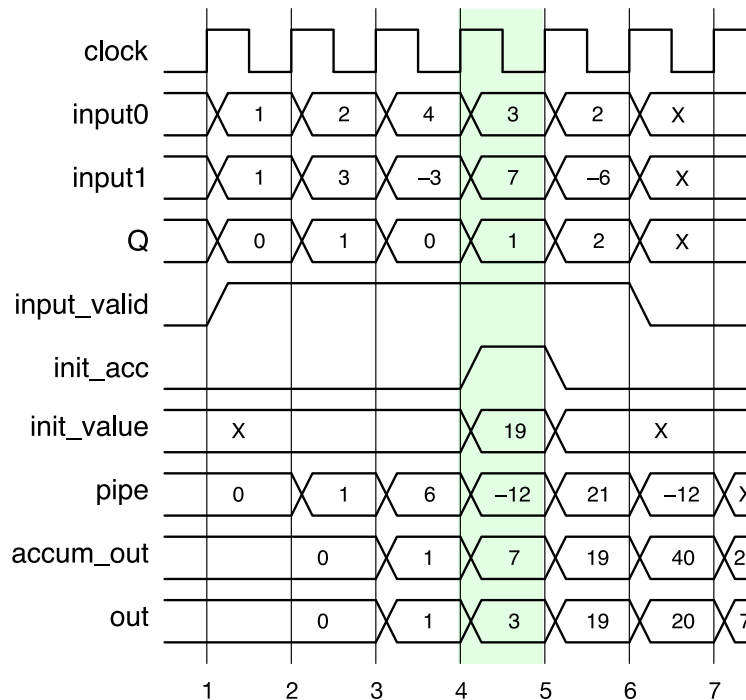

Figure 5: Demonstration of the timing of accumulator initialization.
Notice, however, that `init_acc` connects directly to the accumulator register without any extra delay. This means that initializing the accumulator still happens in a single clock cycle, even though the datapath now has a latency of two. The result is that you can simultaneously ask the MAC unit to initialize the accumulator *and* provide new values of `input0` and `input1`. Consider the diagram shown in Figure 5. (Here, assume that `pipe` represents the output of the pipeline register, `accum_out` represents the output of the accumulator register, and `out` is the output of the shift-and-saturate unit.)
- Pay careful attention to what happens at clock edge 5 (highlighted green in Figure 5). At this edge, `init_acc` is 1. So, after the clock edge, `accum_out` is initialized to `init_value=19`. But note that this doesn't invalidate the values of `input0`, `input1`, and `Q` provided at the same time (3, 7, and 1). The product $3*7=21$ is still stored on the pipeline register at clock edge 5, and it affects the accumulator and output after clock edge 6 (computing $\text{accum_out} = 19 + 3*7 = 40$ and $\text{out} = 40 \ggg 1 = 20$). So,